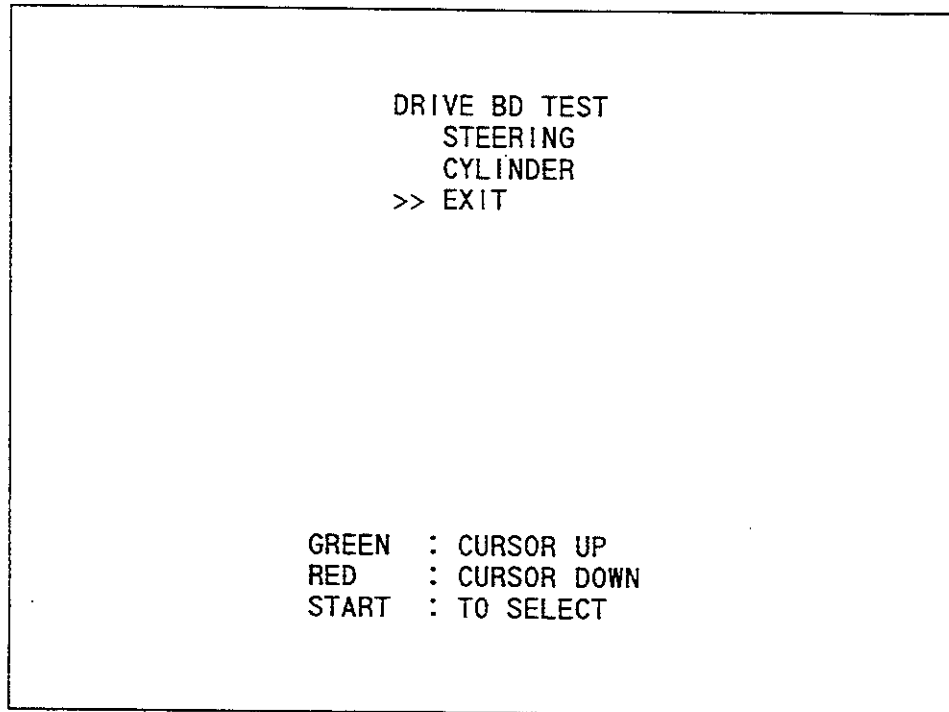

FIG. 10.8 DRIVE BD TEST
This test is comprised of 2 screens of which one allows the Steering Wheel Reaction Mechanism to be checked, and the other enabling Seat Moving Mechanism to be checked. Select "DRIVE BD TEST" on the MENU screen (Fig. 10.2) to have the screen (as shown in Fig. 10.8 a) appear. By using the SERVICE SW or VR1 (red) or VR4 (green), bring the arrow (>>) to the desired test item.
Fig. 10.8 b Steering Wheel Test
Choosing STEERING on the screen (Fig. 10.8 a) causes the screen (as shown in Fig. 10.8 b) to appear. This test checks the Steering Wheel Reaction Mechanism, and also, the V. R. values for the Steering Wheel's DRIVE BD as well as on-DRIVE BD DIP SW setting status.
- EXIT Causes the menu mode to return on to the screen. (Fig. 10.8 a)
Fig. 10.8 c CYLINDER TEST
Choosing "CYLINDER" in Fig. 10.8a causes Fig. 10.8 c screen to be displayed. This screen allows Seat movement mechanism, etc., to be checked. Move the arrow (>>) by using the SERVICE SW or VR SW1 (red) or VR SW4 (green). Check if the Seat movements are in accordance with the setting pointed by the arrow and the ENTRY LAMP lights up. On this screen, periodically check if the movements are in compliance with the settings.
- **EXIT** To return to the MENU screen (Fig.10.8 a).